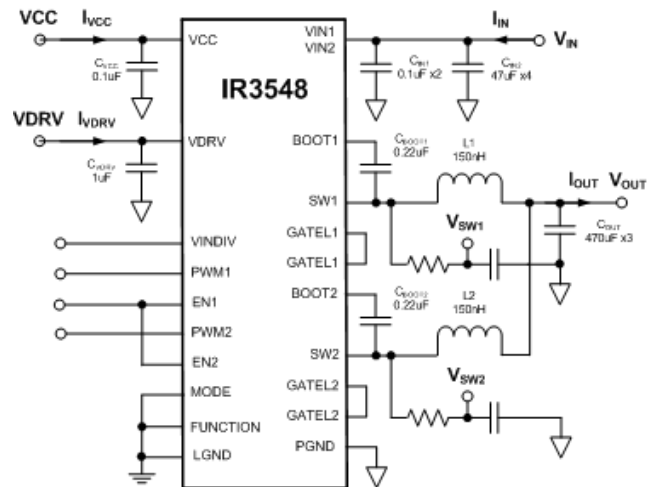

Figure 34: IR3548 Power Loss Measurement
Circuit of Figure 34, $V_{IN}=12V$, $V_{OUT}=1.2V$, $f_{SW} = 400kHz$, $L=150nH$ ($0.29m\Omega$), Two Phases, Dual Driver, PWM Mode, $V_{CC}= 5V$, $V_{DRV}=7V$, $T_{AMBIENT} = 25^{\circ}C$, no heat sink, no air flow, 8-layer PCB board of 3.7”(L) x 2.6”(W), no PWM controller loss, no inductor loss, unless specified otherwise.
The two-phase IR3548 efficiency and power loss measurement circuit is shown in Figure 34.